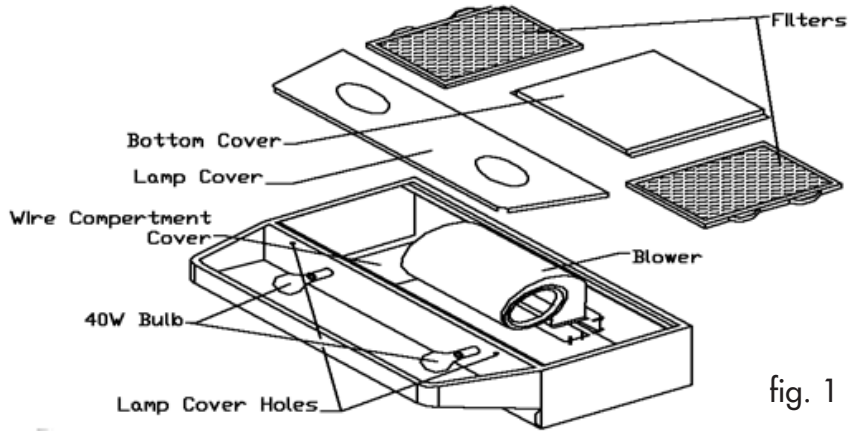

fig. 1
10. Remove the range hood's blower. Use a 3/8" nut driver or ratchet to remove the 4 nuts holding it in position (Fig. 1). Place the blower and nuts somewhere safe until needed.